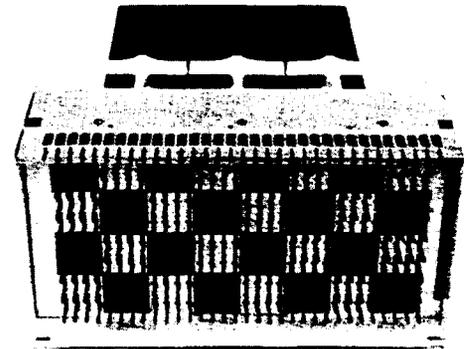

Figure 39—Bridge Lifter Block — 89-Type
**8.27** The bridge lifter assemblies (Figures 39 and 40), designed for mounting on a central office distributing frame, are equipped with 1574D inductors terminated to one side of a wire-wrap terminal block. The 1574D comes equipped with a 5800-ohm shunt that reduces the AC inductors. These saturable inductors are miniature toroid cores that are bifilar wound, and minimizes inductive imbalance and reduces resulting line noise. The standard bridge lifter comes equipped with 64 inductors and provides 32 circuits. Bridge lifters with 25 circuits are available.